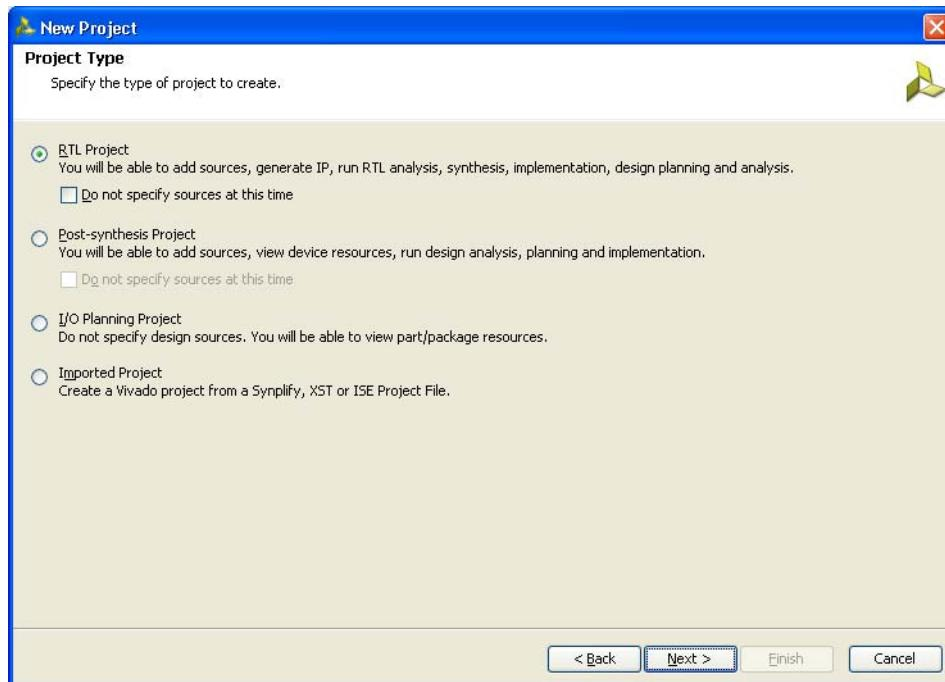

Figure 2-4: Project Type
- Click **Next** to proceed to the Project Type page (Figure 2-4). Select the Project Type as RTL Project because MIG deliverables are RTL files.